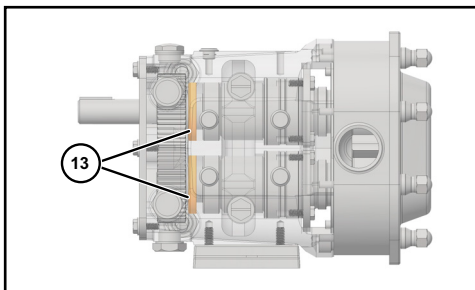

Figure 46 - Remove Rear Oil Seals
11. Press out and discard both rear oil seals in the gear case (Figure 46, item 13).